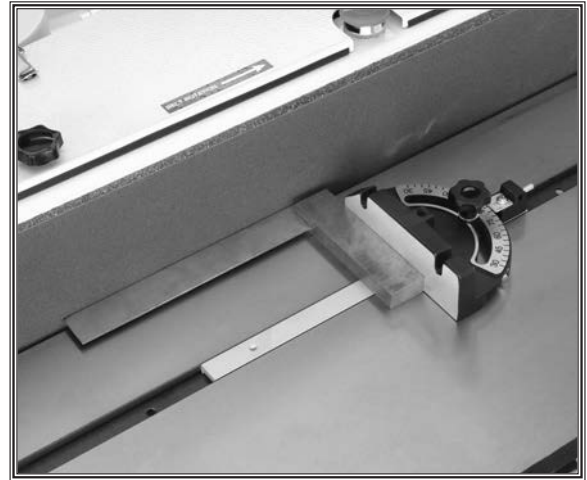

Figure 27. Squaring the miter gauge.
1. Use a machinist's square with one edge against the face of the miter gauge and the other against the belt face as shown in **Figure 27**.